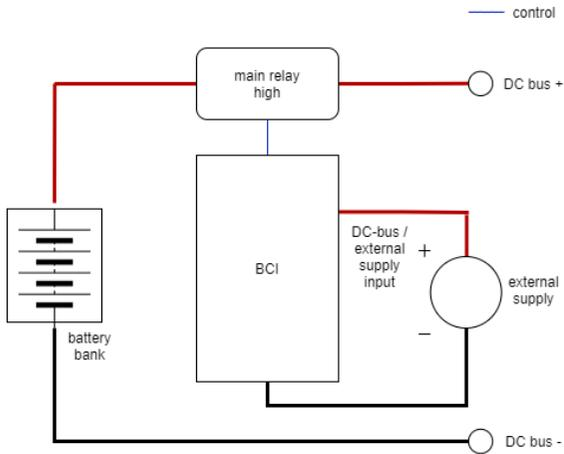

Figure 6. BCI supplied by external power supply
- ⚠ CAUTION! When LFP battery banks with a setup depicted in Figure 6 are connected in parallel via the DC-BUS, the self-shutdown functionality will only be activated when the power to all BCIs is turned off. This ensures that the system remains safe and prevents any power flow when the BCIs are not operational.**